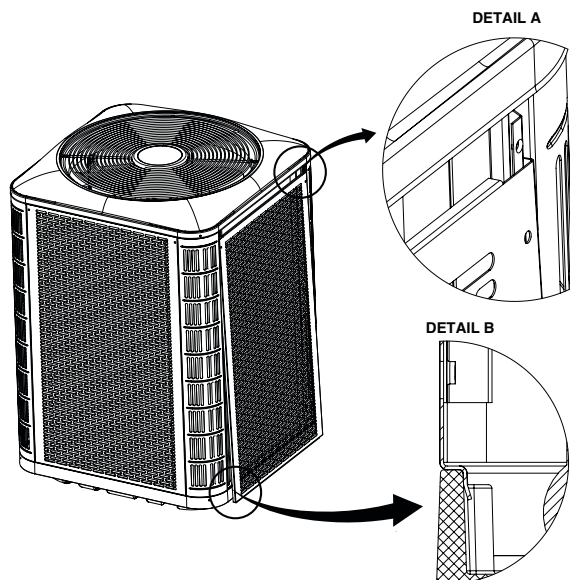

Figure 7. Panel Installation
1. Insert the top corners of side panel flanges into the corner post channels as shown in Detail A in Figure 7.